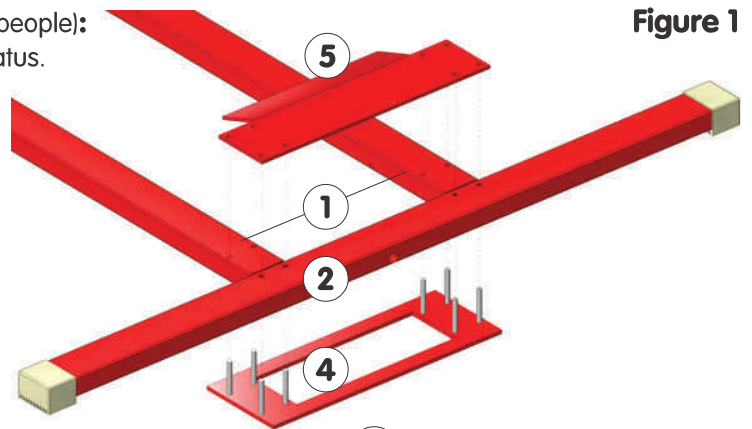

Figure 1
- 1 - Position the lower reinforcing flanges (4) on the floor (see Fig. 1).
- 2 - Insert the ends of each spar (1) into the threaded rods of the lower flanges (4) (see Fig. 1).
- 3 - Insert each leg (2) into the remaining threaded rods of the lower flanges (4) (see Fig. 1).
- 5 - Insert the upper flanges (5) into the threaded rods of the flanges (4), protruding from the frame assembly (1)+(2) (see Fig.1).
- 6 - Insert the uprights (7) or (8) into the threaded rods of the flanges (4) and direct the grips (12) to the apparatus outside.
**Tip:** The uprights (7) or (8) of the same package are attached to the same leg (2).
- 7 - Secure the assembly using the 16 nuts (6): gradually tighten, so that all parts correctly fit in position. Moderately tighten the 4 nuts (6) of each upright (7) or (8), then increase tightening by rotating around the apparatus, until final locking. After some time in use, securely tighten the assembly.